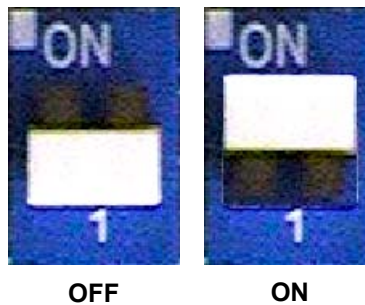

Figure 1.6 – Termination Switch
- 7:** If this unit is either the first or the last device on the network, including PLCs and PROFIBUS-DP Masters, and active termination is not used, set the termination resistor switch to ON. If this device is not the first or last device on the network or active termination is used, set the termination resistor switch to OFF. Refer to **Figure 1.6 – Termination Switch**.